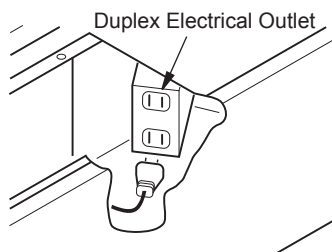

Figure 14 - Accessing Duplex Electrical Outlet Installed in Bottom Right Side of Firebox
⚠ WARNING: If there is a duplex electrical outlet installed in the right side of the bottom of the fireplace base area (see Figure 14), be sure that the electrical power to the outlet is turned off before proceeding with blower installation. Failure to do this may result in serious injury.
7. Plug in blower power cord to duplex outlet (see Figure 14, page 15).
6. Plug in blower power cord to duplex outlet (see Figure 14, page 15).